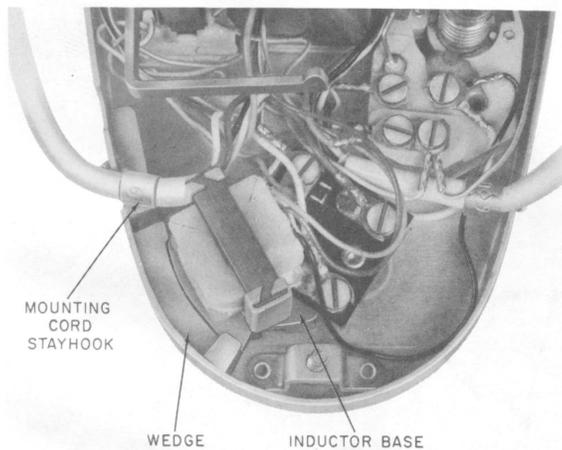

Fig. 6—Top View, Location of Wedge
- (4) Insert wedge in position (Fig. 6).
- (5) Connect inductor between terminals B of network and 3 of terminal board.
- (6) Replace mounting cord stay hook, dial, and housing.